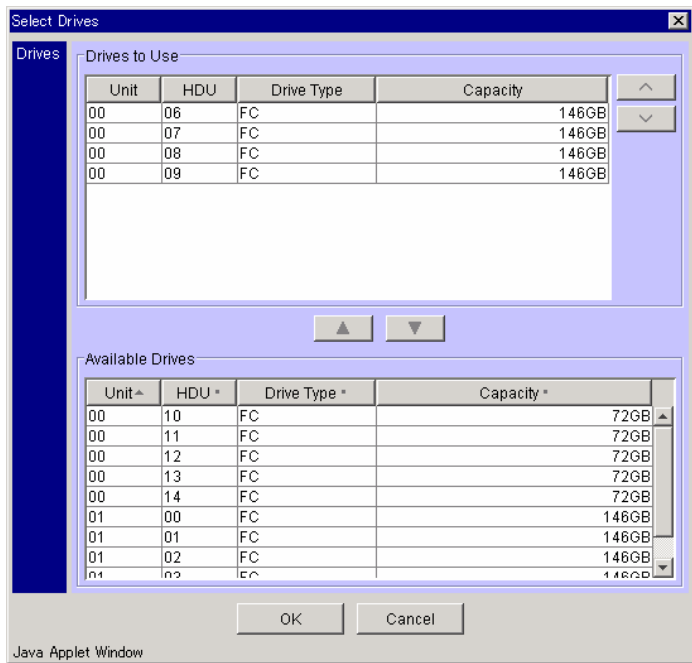

Figure 5.8 Select Drives
- Click the HDU number to compose a RAID group, keeping the **Shift** key pressed. See Figure 5.8.